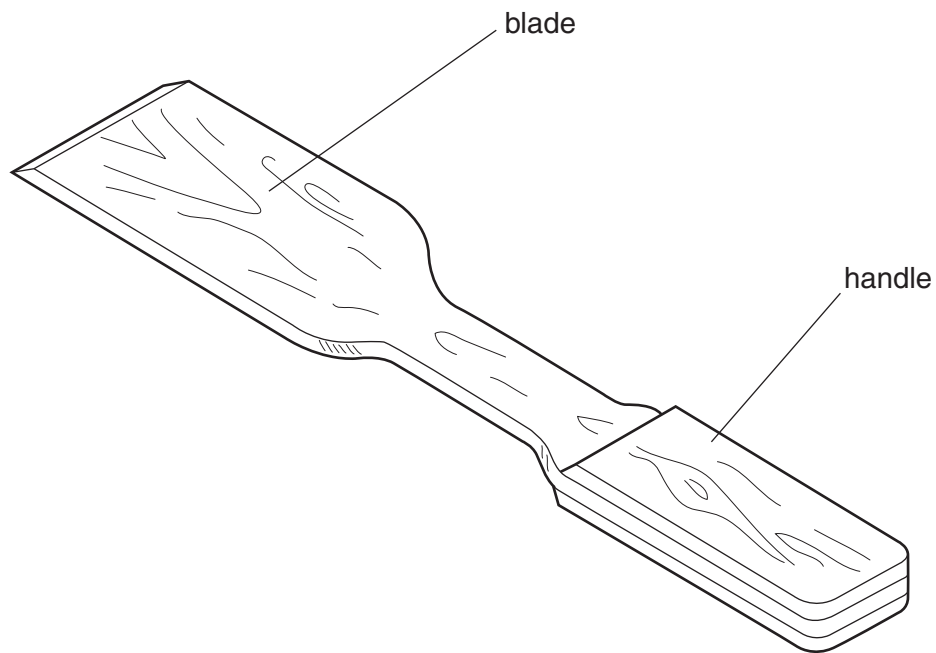

Fig. 1
- 1 Fig. 1 shows a spatula made from three separate pieces of hardwood.
- (d) Underline the production method from the list below that is used to make 25 of the spatula shown in Fig. 1.